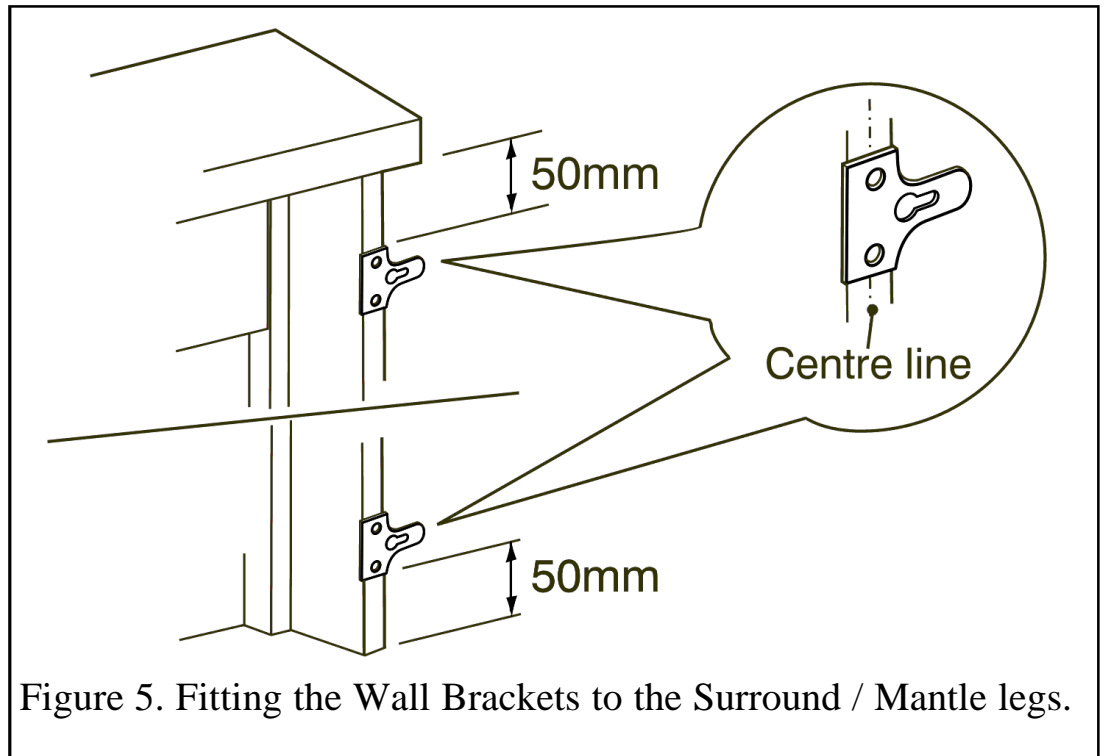

Figure 5. Fitting the Wall Brackets to the Surround / Mantle legs.
- Place wall fixing brackets (M) 50mm from the top outside edge and bottom of the legs as shown in figure 5. Ensure that the two fixing holes in the brackets are positioned in the centre of the outside edge of the leg. The wood may split if the fixing holes are not central. Secure in place using eight screws (K).